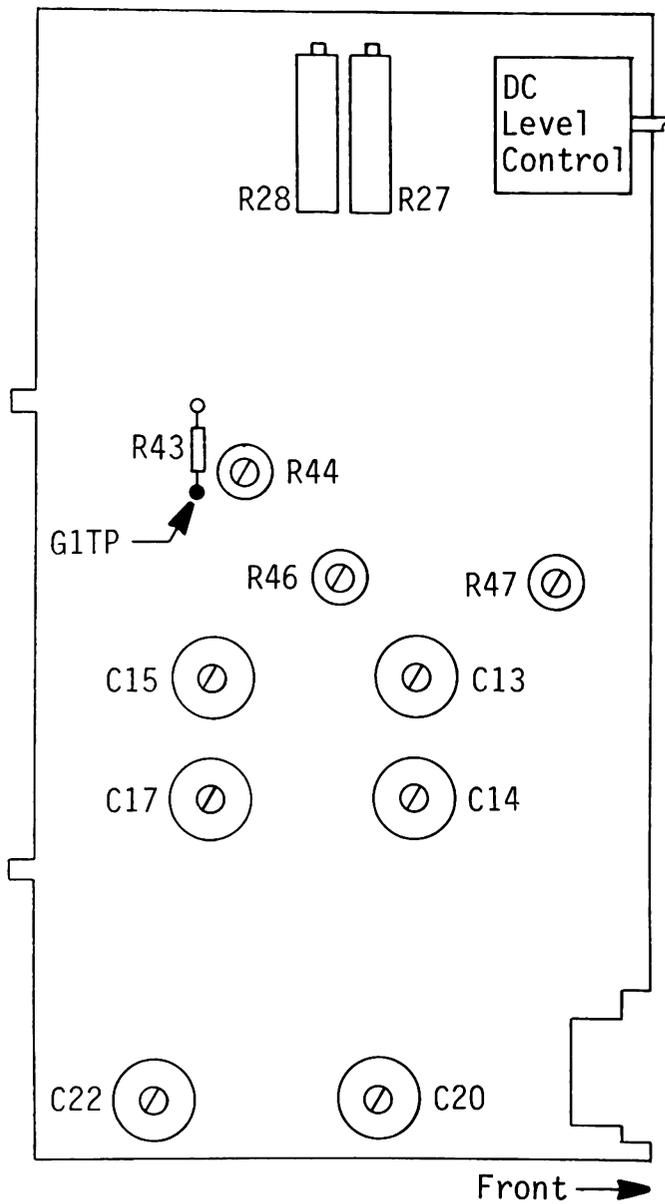

Figure 8 - Left side view
7. Connect multimeter to G1TP. (See Figure 8)
- b. Adjust R47 (Figure 8) until the trace is aligned with the horizontal marker line.
9. Adjust R27 (Figure 8) for the best straight line.
5. Adjust C20 (Figure 8) for minimum overshoot or undershoot.
3. Adjust C22 (Figure 8) for minimum overshoot or undershoot.
22. Adjust R28 (Figure 8).
12. Adjust C13 (Figure 8) for minimum negative cycle overshoot or undershoot.